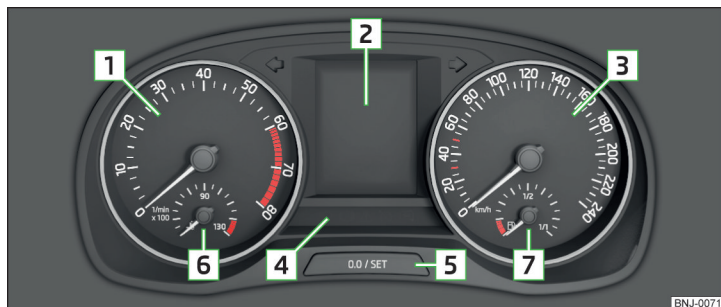
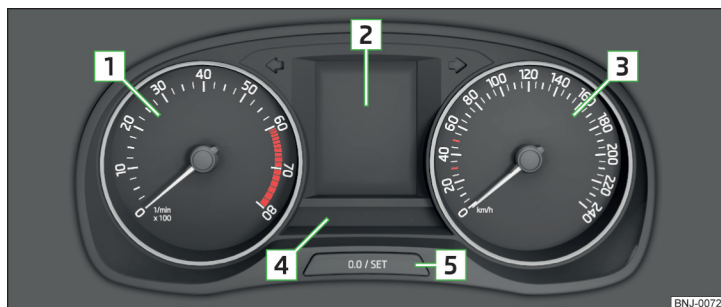

Fig. 20 Instrument cluster - Version 1
Fig. 21 Instrument cluster - Version 2
The tachometer » Fig. 20 on page 30 or » Fig. 21 on page 30 shows the actual engine speed per minute.
The speedometer **[3]** » Fig. 20 on page 30 or » Fig. 21 on page 30 displays the current speed.
Applies to cars with the instrument cluster - Version 1 » Fig. 20 on page 30.
Vehicles with the instrument cluster - Version 2 » Fig. 21 on page 30 do not have any coolant temperature gauge. They are only provided with a high-temperature indicator » page 40, **!** Coolant.
» Press and hold the **5** » Fig. 20 on page 30 or » Fig. 21 on page 30 button briefly.
- Press and hold the button » Fig. 20 on page 30 or » Fig. 21 on page 30 until the **time** is shown.